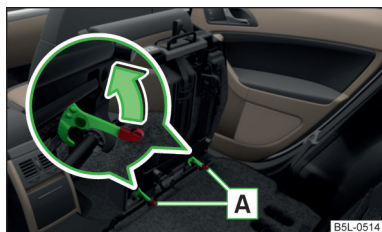

Fig. 53
- Lock the folded forward seat by pressing the seat locks **A** in the direction of arrow » Fig. 53.
- If the seat has been removed, first position it on the guide and lock it in place using seat locking **A** » Fig. 53 on page 70. Pull the seat upwards to ensure that the seat is locked correctly.